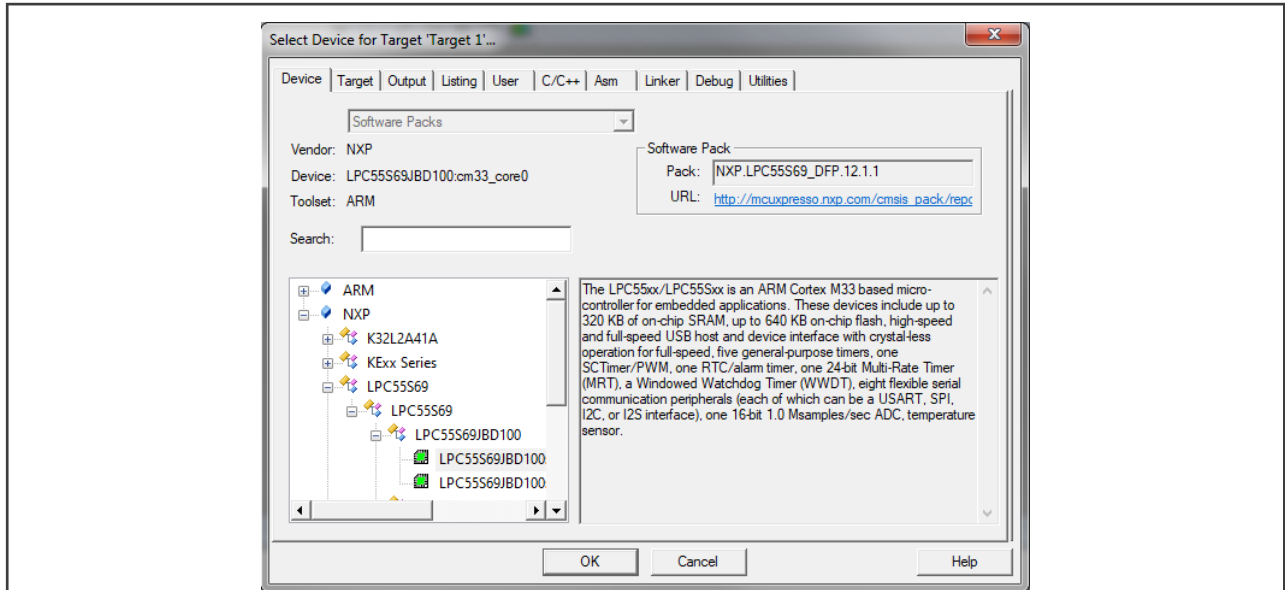

Figure 9. Select Device dialog
- Click the LPC55s69 node, and then click OK. See Figure 9.